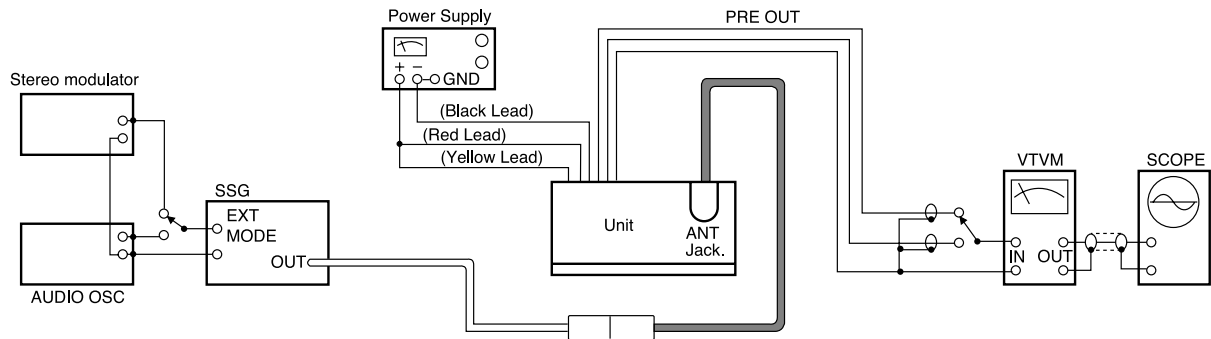

Figure 3.
4. Connect as shown in figure 3.